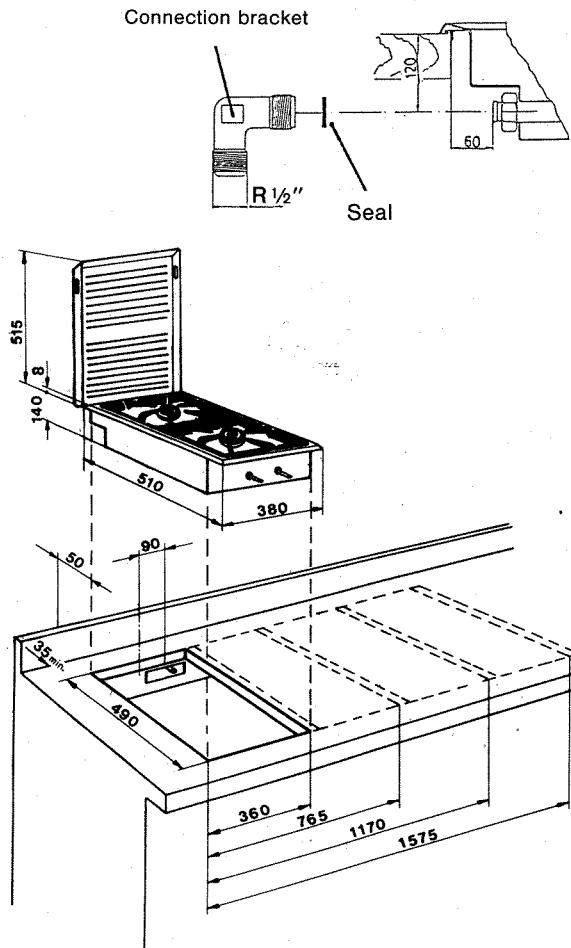

Fig. 3
The appliance must be connected with the included R 1½" connecting bracket and the included seal (see Fig. 3) using a fixed connecting line or a type-tested gas safety hose conforming to DIN 3383 Part 1. As the temperature of the housing hob cannot exceed 70 K, a non-metal safety gas hose line with a minimum temperature resistance of 70 K can be used as the connecting line.
2. Produce the work surface recess as shown in Fig. 3. When installing an intermediate base, observe a distance of 150 mm from the top of the work surface to the intermediate base.